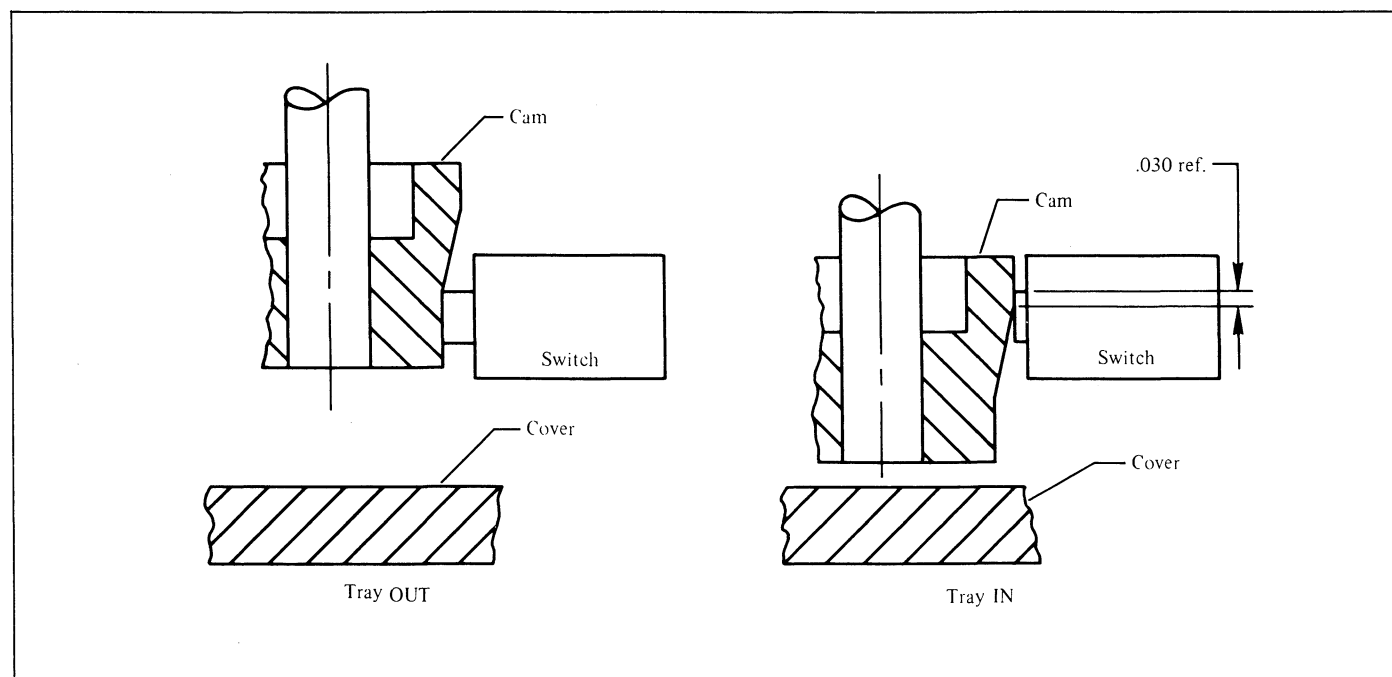

Figure 3. Switch Internal Adjustment.
3. If necessary, bend the lever, Figure 3, to maintain the following conditions: